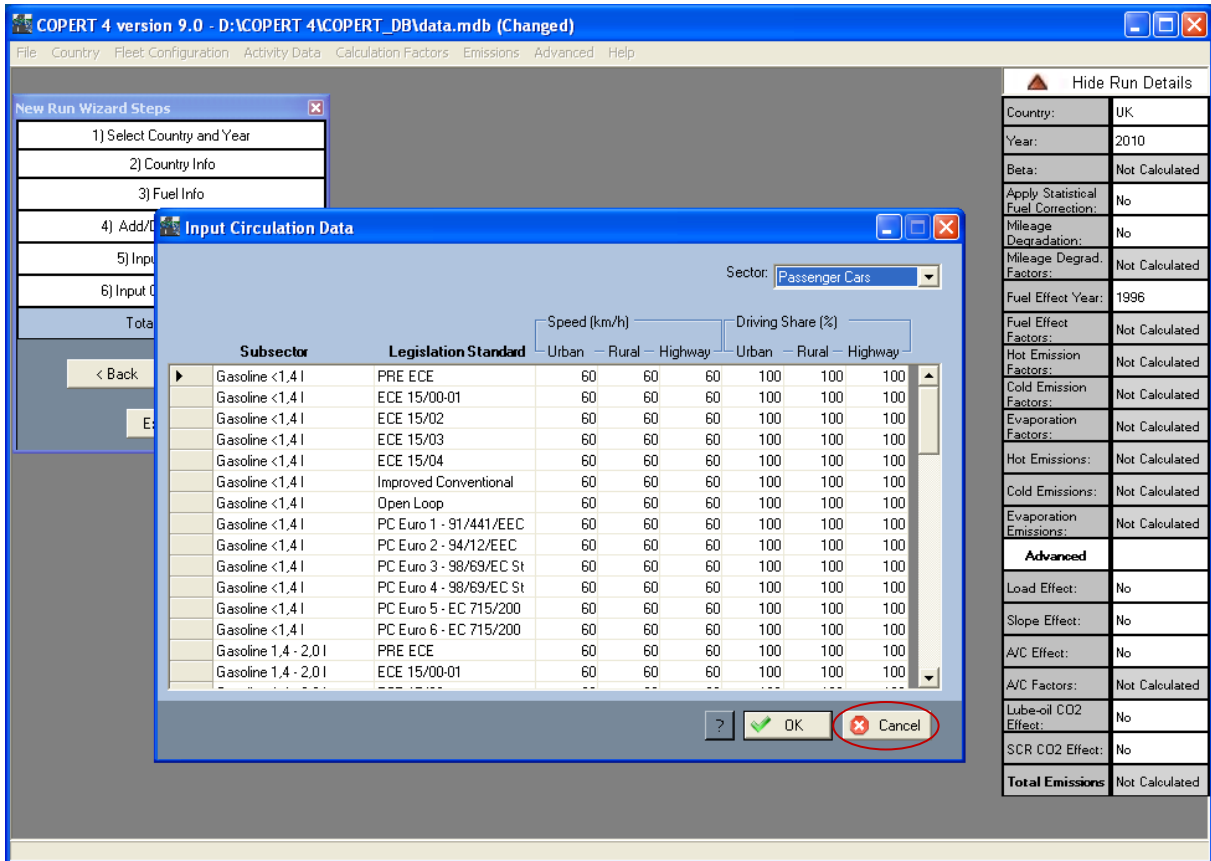

Figure 10 - Input Circulation Data Screen
- Repeat the instructions in 'Step 2' that guide you through the Run Wizard, but this time continue through to the 'Input Circulation Data' screen (Figure 10).